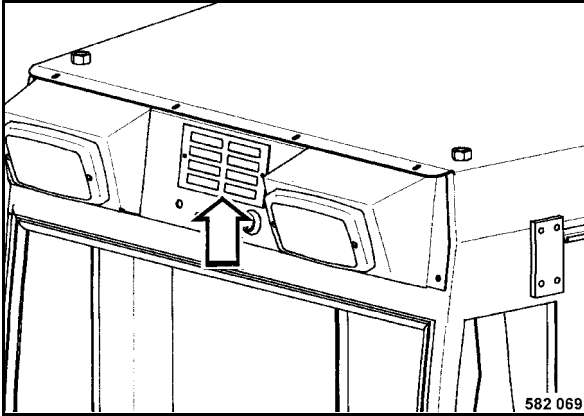

Fig. 116
- Remove the filter screen (Fig. 116) and take the filter out.